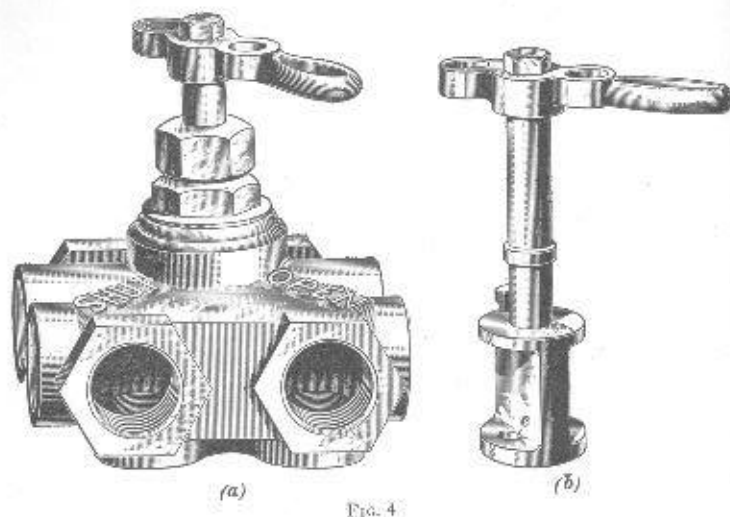
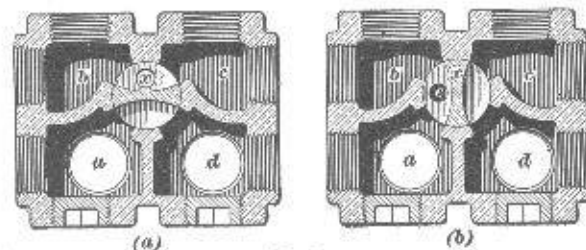

FIG. 4
FIG. 5
5. Vapor Cut-Out Valve.—In Fig. 4 (*a*) is shown the cut-out valve, complete, and in (*b*) is a view of the plug valve
removed from the valve body. In Fig. 5 (a) and (b) are shown sectional views of the valve, the sections being taken on a horizontal plane through the middle of the valve to show the four chambers *a*, *b*, *c*, and *d* and the center chamber in which the plug valve shown in Fig. 4 (b) works. Each of the first four chambers is provided with two or more pipe connections for convenience of piping, all unused openings being fitted with plugs. The end of the valve containing the chambers *a* and *d* is called the *regulator end*, whereas the end having the chambers *b* and *c* is the *radiation end*, or the heating-coil end. When
the handle of the valve stands at *Open*, marked on the outside of the body of the valve, Fig. 4 (a), chamber *a* is connected to chamber *b*, and chamber *c* is connected to chamber *d*, as shown in Fig. 5 (b), so that steam from the automatic valve in the vapor regulator can pass through chambers *a* and *b* to the radiating pipes, and after completing the circuit of the car it can pass through chambers *c* and *d* to the thermostat in the vapor regulator. When the handle of the cut-out cock stands at *Shut*, Fig. 4 (a), the steam entering chamber *a* from the automatic valve in the vapor regulator cannot pass into the radiating pipes, but must pass to chamber *d*, Fig. 5 (a), and to the outlet
of the vapor regulator, thus maintaining the temperature of the regulator and preventing it from freezing up during the time steam is shut off from the heating coils. When the cut-out valve is closed, the port *x* in the body, Fig. 5 (a), which leads to the drip pipe *x*, Fig. 1 (a), and port *e* in the plug of the valve, Fig. 4 (b), register, and any condensation in the radiating pipes can escape to the atmosphere through the opening thus made.
To shut steam off from the heating coils, the handle of the vapor cut-out valve is turned to position marked *Shut*. In this position, the steam after passing the automatic admission valve flows directly through the cut-out valve without entering the heating coils, and passes direct to the thermostat. Just enough steam flows past the automatic admission valve to maintain the thermostat at about 212° F. In this position of the cut-out valve, any condensation in the heating coils can escape through the $\frac{1}{4}$ -inch drip port *x*, Fig. 5 (a).